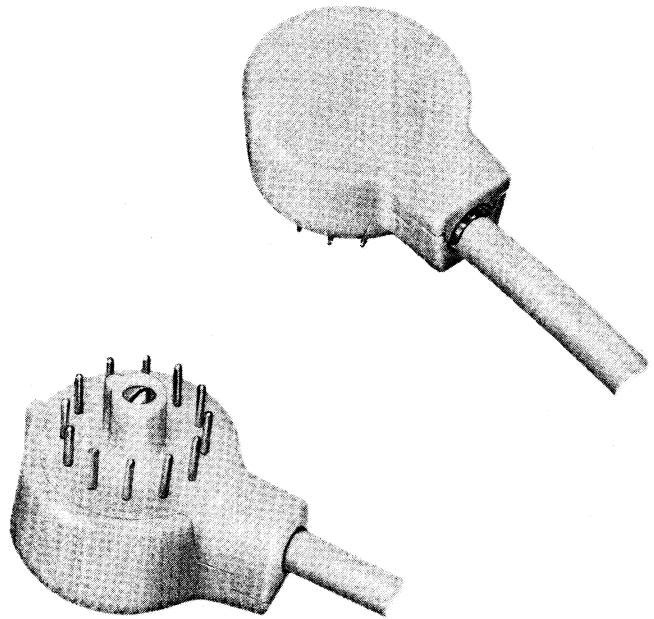
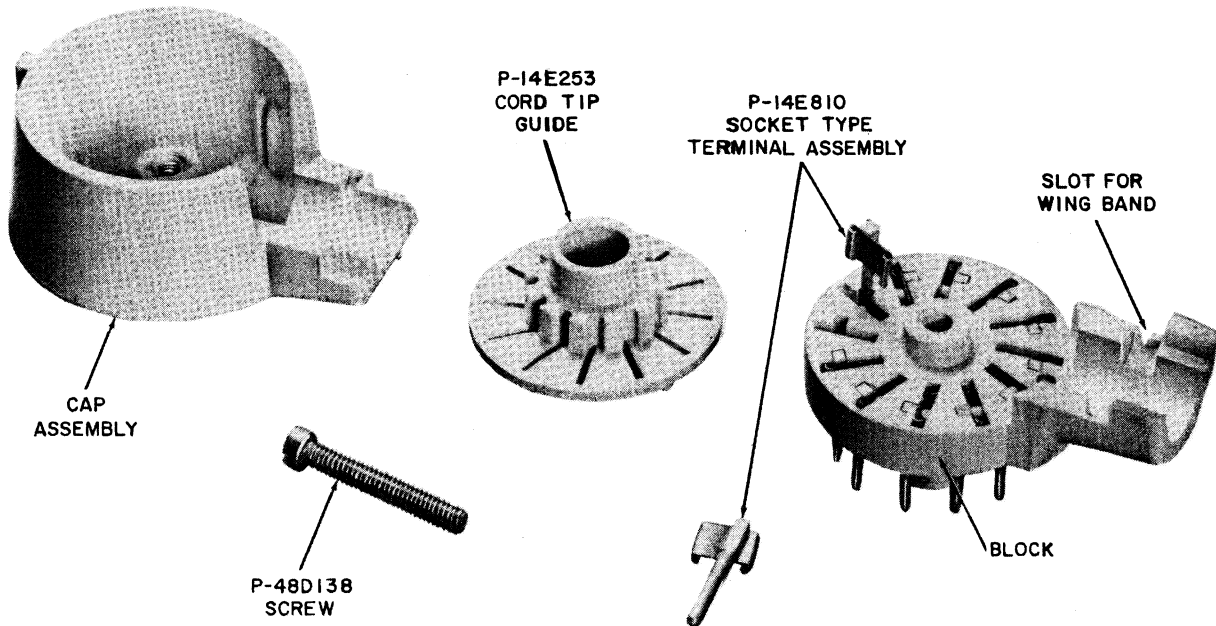

Fig. 4—504A Plug
Fig. 5—504A Plug Disassembled
2.05 The 504A plug (Fig. 4) is made in three pieces of molded plastic and is held together by one screw and a snap-fit in the neck. Plug block contains contacts and socket type terminals. A cord tip guide (Fig. 5) covers terminals. Guide will fit in only one position. The contact numbers are molded on the guide. Contacts are numbered
2.06 Slots are provided on plug block and shell (Fig. 5) to hold a wingband or clipped stay hook. The wingband or stay hook seated in the
4.05 Connections for the 504A plug (Fig. 4) are as follows:
- (1) Place cord tip guide on block (Fig. 5).
(2) Insert mounting cord tips into socket type terminals of plug.
- (3) Dress conductors so they will lie within the cap of plug.
- (4) Place wingband or stay hook and mounting cord in their proper slots.
- (5) Place cap on plug so cord and wingband or stay hook will seat properly. Be sure no leads are pinched.
- (6) Snap two sections of neck together.
- (7) Insert screw and tighten.